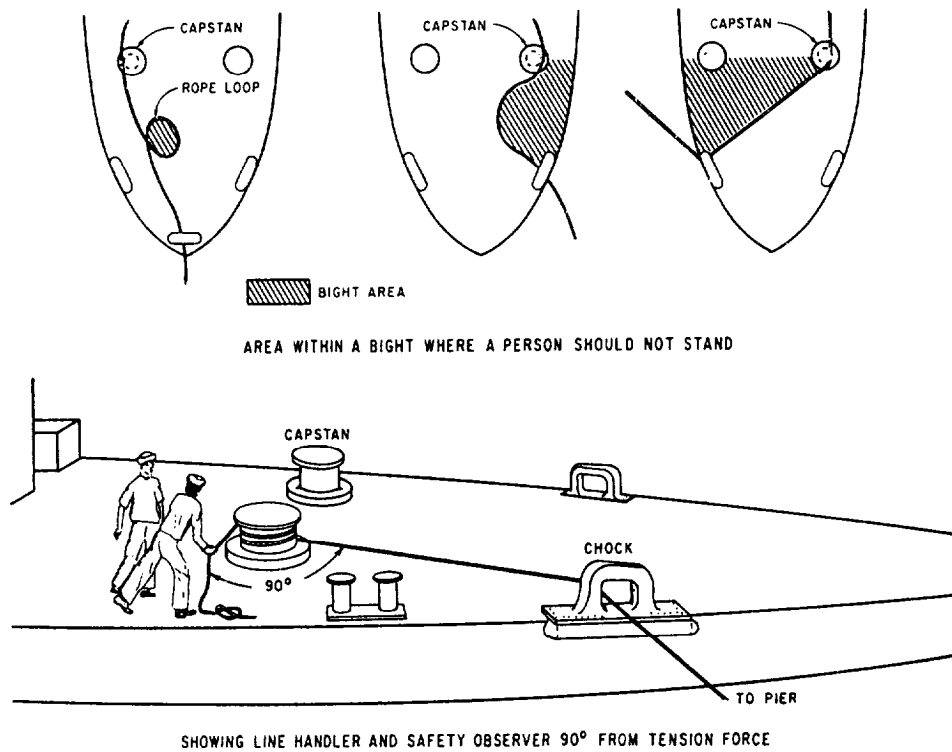

Figure 3-2.—Safe work areas.
2. Since a snap-back action inevitably occurs when a line parts under tension, never allow personnel to stand in the direct line of pull of the line when it is being pulled or when it is under tension. A synthetic line parting under tension will snap back at near the speed of sound, and reaction time to clear the area will not be available. Where possible, position line handlers 90° from the direction of the tension force (fig. 3-2).
1. Never stand in the bight of a line or in the direct line of pull when the line is being pulled or under tension. See figure 3-2 for an example of bight areas.